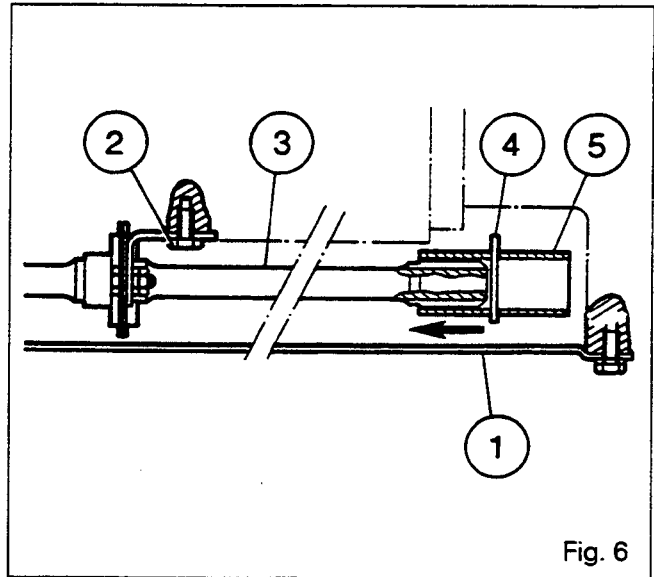

Fig. 6
10. Remove the guard (1) (Fig. 6).
11. Unscrew the centre bearing (2) from the 4WD shaft (3) (Fig. 6).
12. Remove the cotter pin (4) from the rear sleeve (5). Disengage the 4WD clutch shaft by sliding off the sleeve (Fig. 6). Turn the half-shaft so as to bring the coupling sleeve (2) into position (Fig. 4).